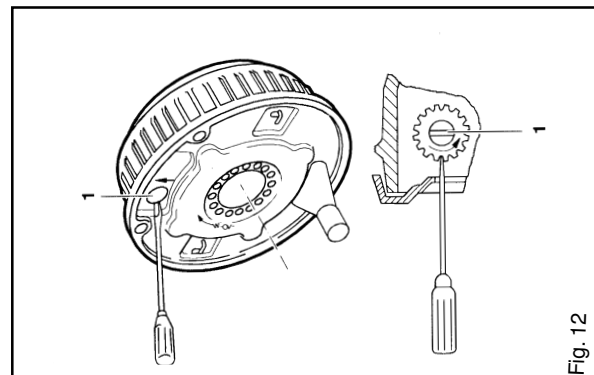

Fig. 12
5. ALWAYS rotating the road wheel in the forward direction - NEVER backwards; adjust the starwheel with a suitable screwdriver, in the direction of the arrow embossed on the backplate until there is resistance in the wheel rotation. (Fig. 12).
6. Slacken off the starwheel adjuster until the road wheel turns freely in the **FORWARD** direction. (Fig. 12).